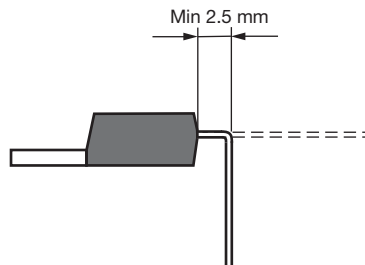

Fig. 3
- For packages with leads of uniform width, the minimum distance between the package body and the bend point should be 2.5 mm (Fig. 3).